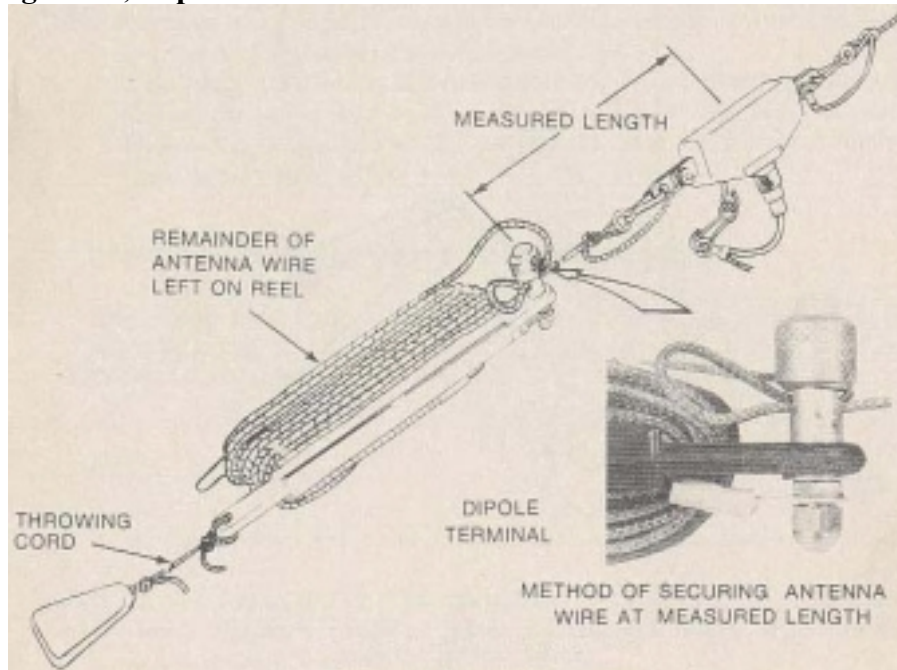

Figure 10. 938A-1 Antenna Securing
B. Make a small loop in the antenna wire at the measured point. Insert it into the hole on the bobbin terminal and secure the wire by tightening the thumbscrew, Refer to figure 10, Repeat for the other half of the antenna.
B. Make a small loop in the antenna wire at the measured point. Insert it into the hole on the bobbin terminal and secure the wire by tightening the thumbscrew. Refer to figure 10. Repeat for the other half of the antenna.